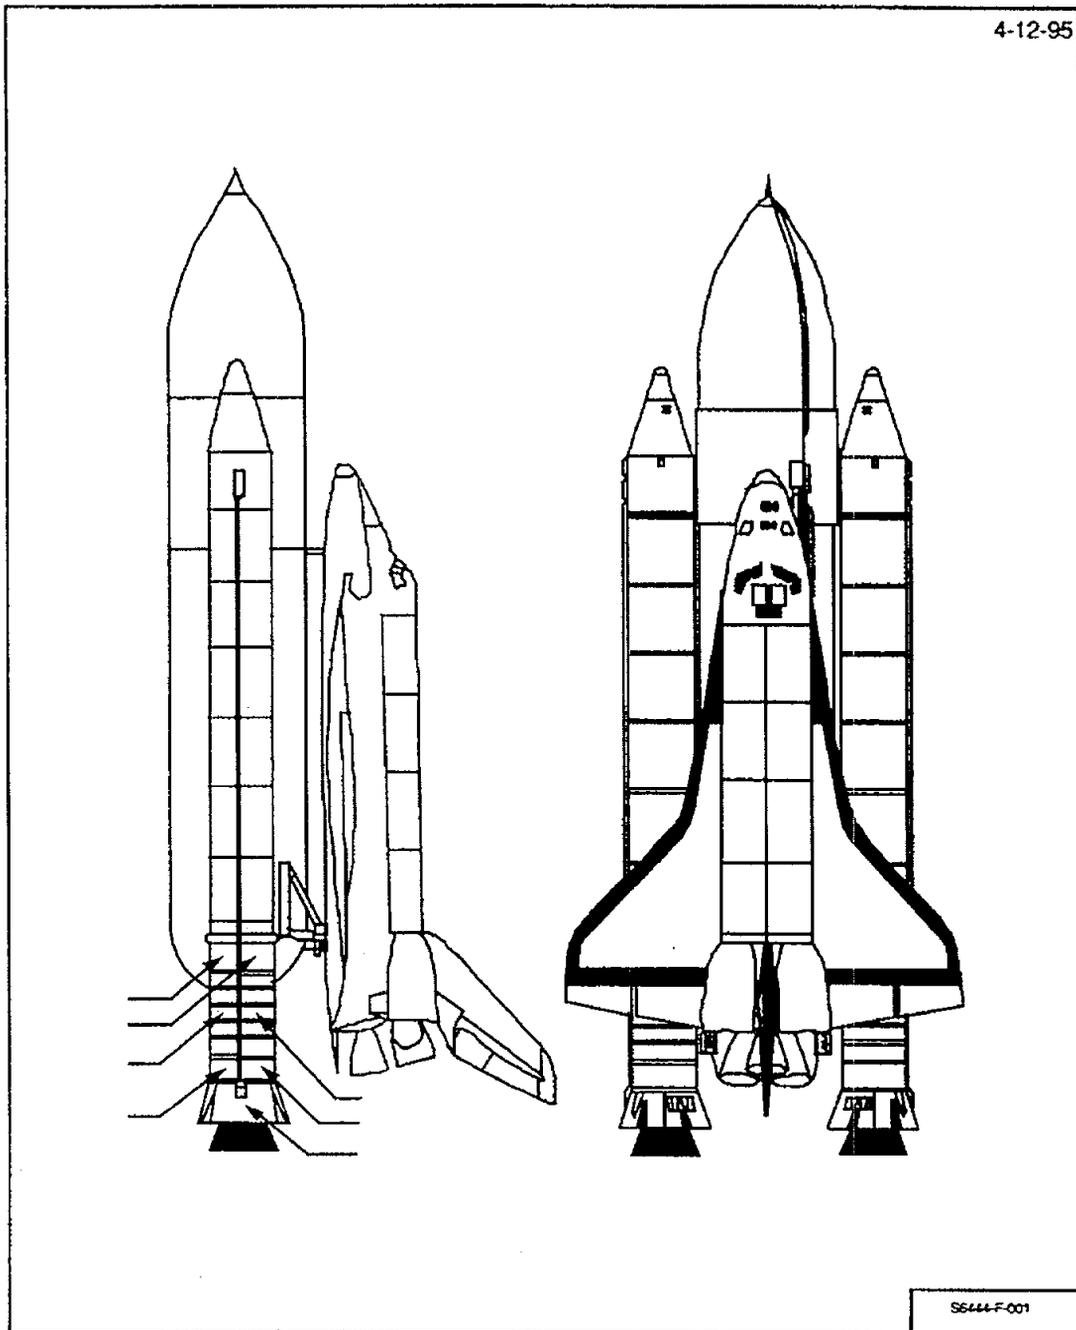

Figure 80-1: Deck (0) Level
3. See Figures 80-1 through 80-4, **measure and record** (deg F) SSV external surface temperatures using IR gun(s)/scanners.
① 2M R. Sene ETM 8/16/01